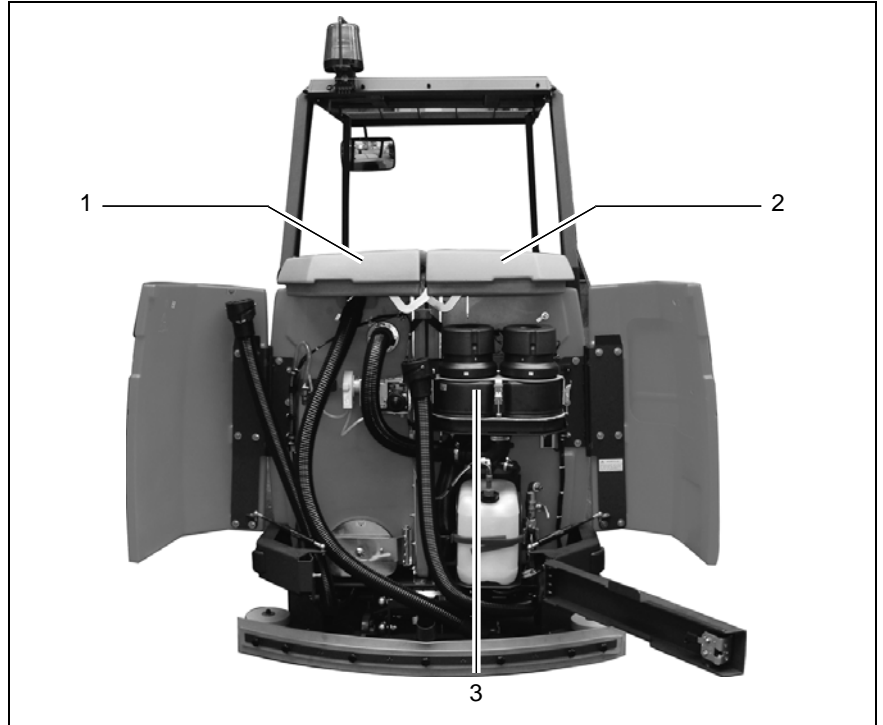

Fig. 14
3.1.4 Suction turbines (suction) (Fig. 14/3)
3.1.5 Fresh water tank (Fig. 14/2)
3.1.6 Recovery tank (Fig. 14/1)